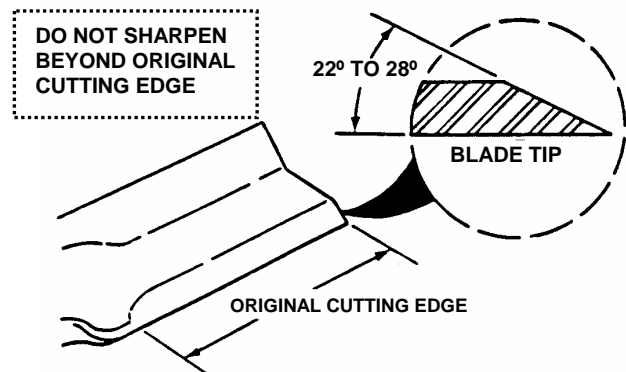

FIGURE 4.13
7. If blade is in good condition, sharpen at 22 to 28 degrees. DO NOT sharpen beyond existing cutting edge. See Figure 4.13.